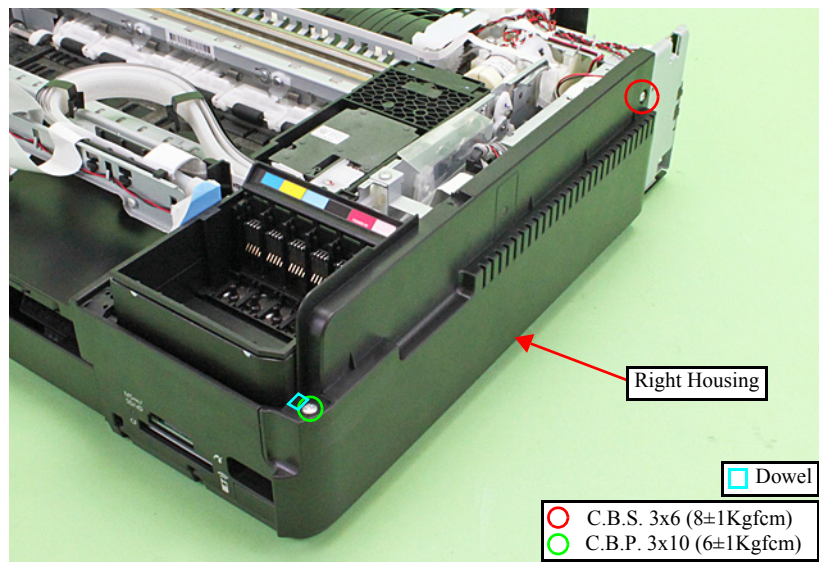

Figure 9-56. Removing the Right Housing (1)
2. Release the dowel (x1) on the front side (see Fig. 9-56), hook A (x3) and hook B (x1) on the bottom of the Right Housing, and remove the Right Housing in the direction of the arrow.